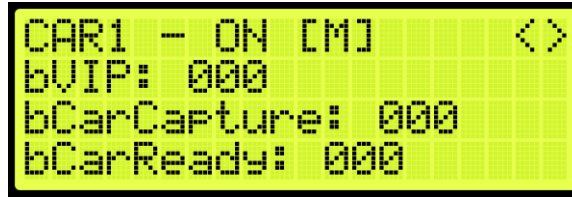

Figure 375: VIP Flags Status
13. From the VIP Flag Status (See Figure 375), press the right button.
13. From the VIP Flags Status (See Figure 375), press the right button.